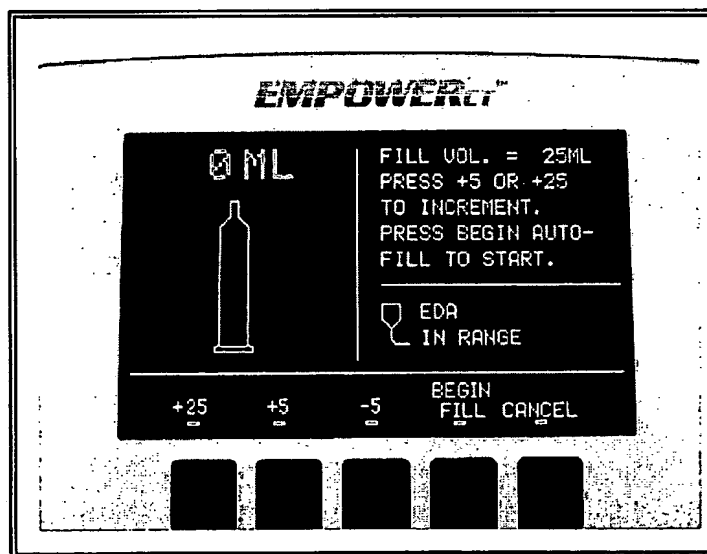
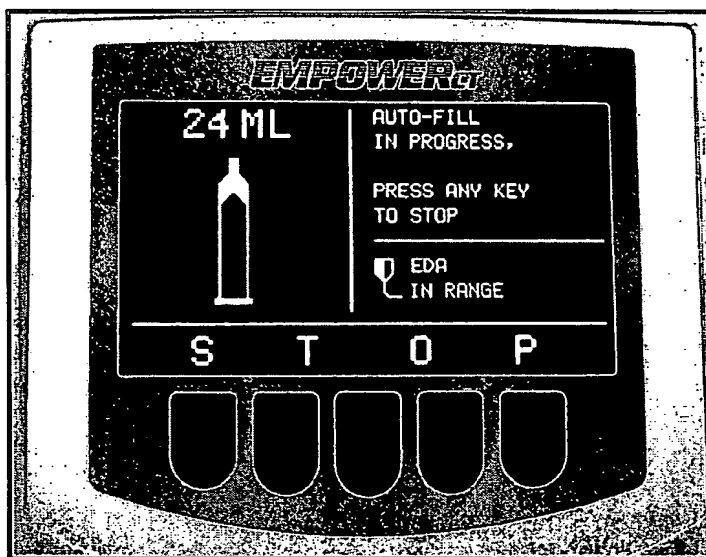

Figure 2.13 Auto-Fill
Figure 2.14 Auto-Fill
5. As shown in Figure 2.13, press the membrane buttons until the desired fill volume of contrast media is displayed near the upper right corner of the screen. This value will be maintained for subsequent injections or until it is overridden by further changes to the **AUTO-FILL** function.
- When the desired volume of contrast media is displayed on the screen, press and hold down the membrane button associated with **BEGIN FILL** (Figure 2.13) until they are replaced by the word **STOP** (Figure 2.14). The Injector Controller will beep twice, and the syringe plunger will begin to retract. Contrast media will then be withdrawn from its bottle into the syringe. When holding the contrast media bottle maintain its orientation such that the end of the J-Tube does not create a vacuum with the contrast media bottle's bottom surface. Creating a vacuum will produce unwanted cavitation bubbles in the contrast media that will be difficult to purge. Additionally, relieving the vacuum after filling could cause unwanted contrast media spillage.